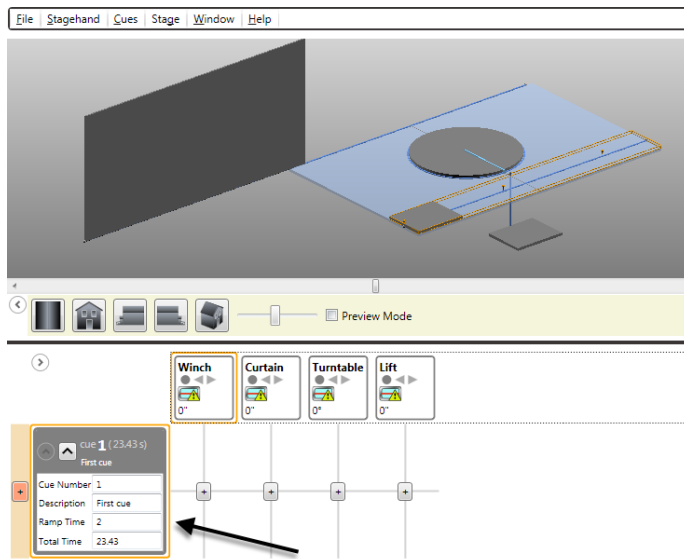

Figure 221
5. You can now set the position for the motors within any given cue by clicking on the applicable Cue in the **Cue Grid** (Figure 221).